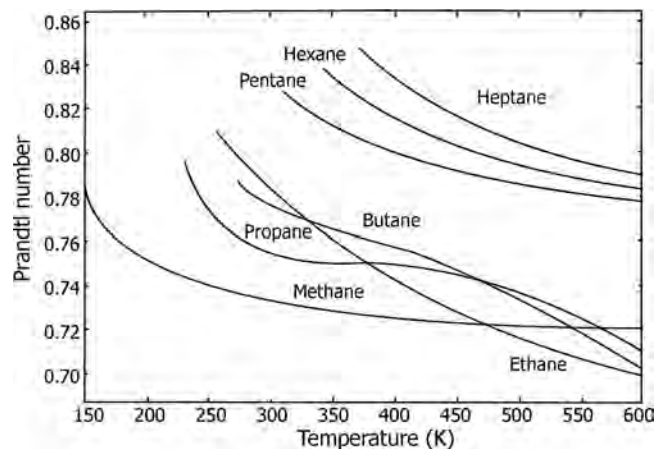

FIGURE 9.1 Prandtl numbers of light hydrocarbon gases at 1 bar.
- Figure 9.1 illustrates variation of Prandtl numbers with temperature for light hydrocarbon gases.